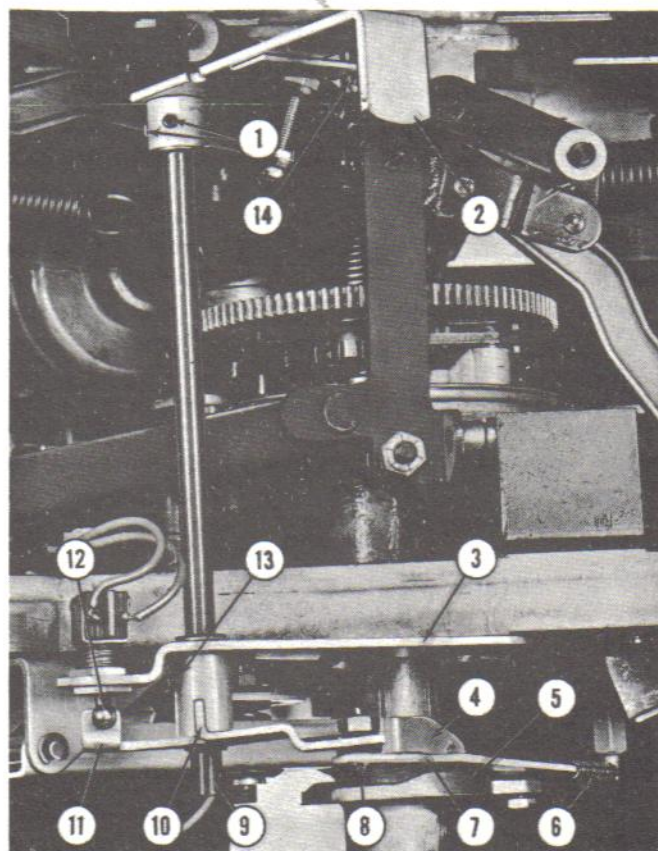

Fig. 33. RECORD LOADING LEVER ADJUSTMENT, 2500-2510
(1) The record loading lever mounted at the front center of the chassis mounting plate (Fig. 33, Item 2) is used to cut the power OFF the changer motor and raise the selector crank arms to a position where they will clear any released selector pins, thereby permitting servicing of the phonograph without cancelling selections which might be made. Should a record be in play position, the record loading lever should be moved to the left, the record playing allowed to trip and return to the record carrier before attempting to turn the record carrier by hand.